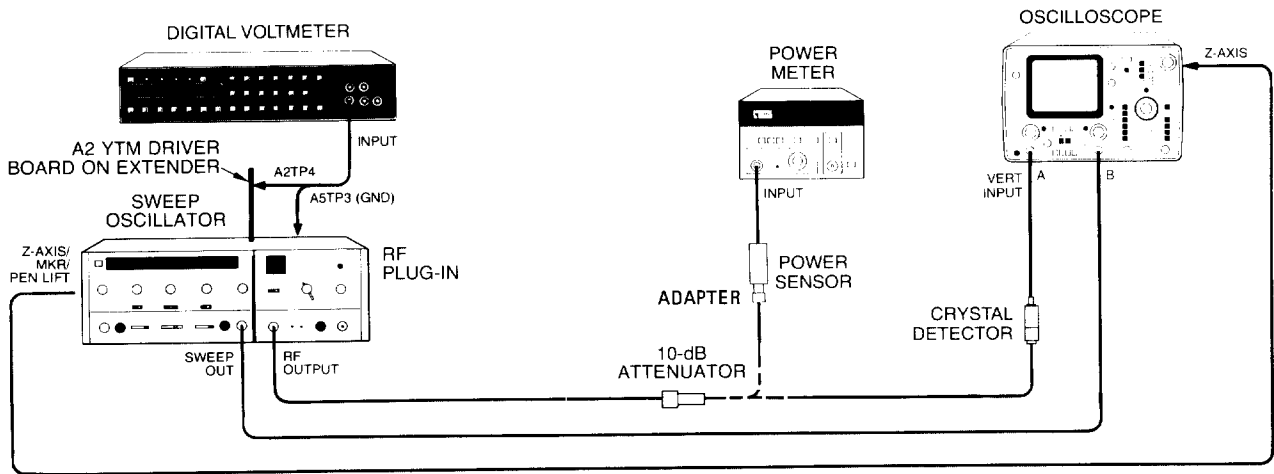

Figure 5-15. YTM Slow Speed Tracking Adjustments Setup
- (1) Connect DVM as shown in Figure 5-15 with HIGH lead connected to A2TP1 and LOW lead to A2TP3.
- (2) Remove A5 SWEEP CONTROL Assembly. Press 8620C LINE switch ON. Select Band 1.
- (3) Adjust A2 ZERO control A2R27 for DVM indication of  $0.0000 \text{ Vdc} \pm 0.0001 \text{ Vdc}$ .
- (4) Press 8620C LINE switch to OFF. Reinstall A5 SWEEP CONTROL Assembly.
- b. Connect equipment as shown in Figure 5-15 with oscilloscope connected to 86290B RF OUTPUT. Install A2 YTM Driver Assembly on extender board (Figure 1-1). Set ALC Function switch A1S1 Position #3 up. Press 8620C LINE switch ON. Select Band 3.